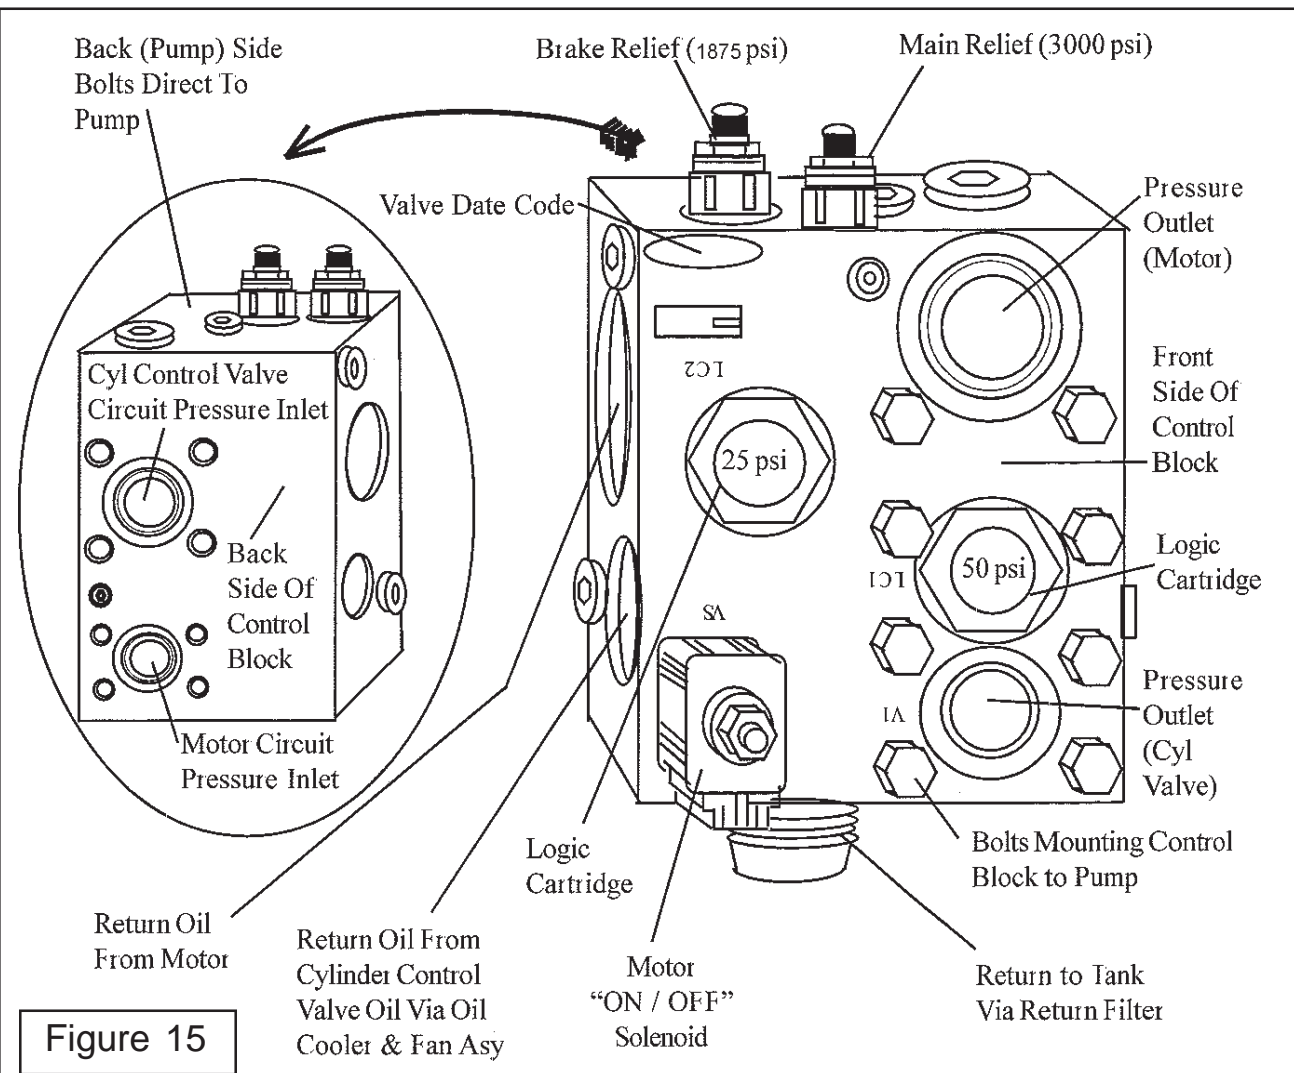

Figure 15
12. Routing Boom Hoses to Pump Boom hose to pump will be routed on RH Side of tractor, They are run through sleeving material and hose support bracket (See Figure 15). The Pump hoses must be connected correctly to boom and pump. There are 2 Pump to motor hoses and 1 motor case drain return hose for a total of 3. (Note Motor Case Drain hose will be run through the Oil Cooler and then return to tank).
13. Pump Hose Routing at Tank. Hose routing at tank is shown as reference to Pump hose routing which most will already be connected when tank and pump asy is shipped from factory. All hoses you must disconnect and reconnect during pump and/or tank asy, refer to this figure for the correct location of hose (See Figure 15).